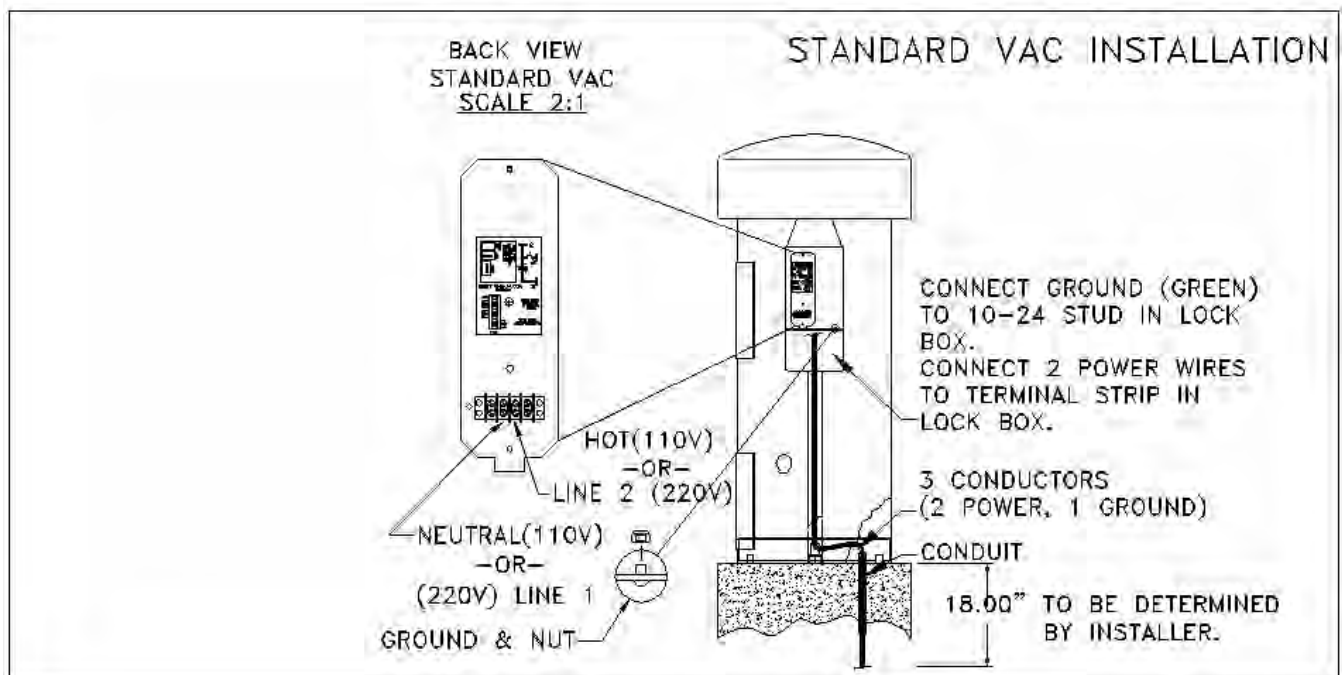

Figure 1: Standard vac installation
2. Mount the unit securely and install electrical service as shown in Figure 1.